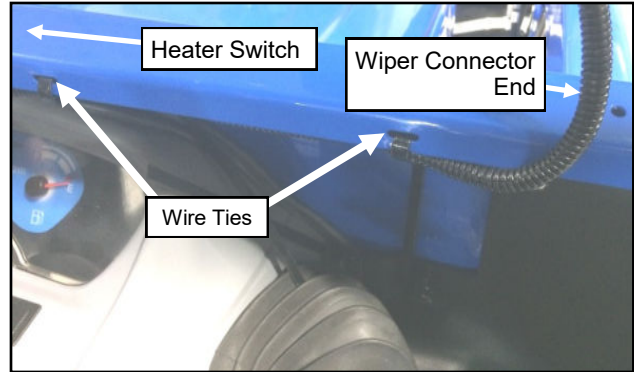

Fig. 10.1 (Attach Main Harness To Cowl)
10.1 Attach the main power wire harness to the top of the cowl, about 6" from the end of the windshield wiper motor connector, using supplied zip-ties. The connector end should be outside the cab with the rest of the harness on the inside. See Figure 10.1.